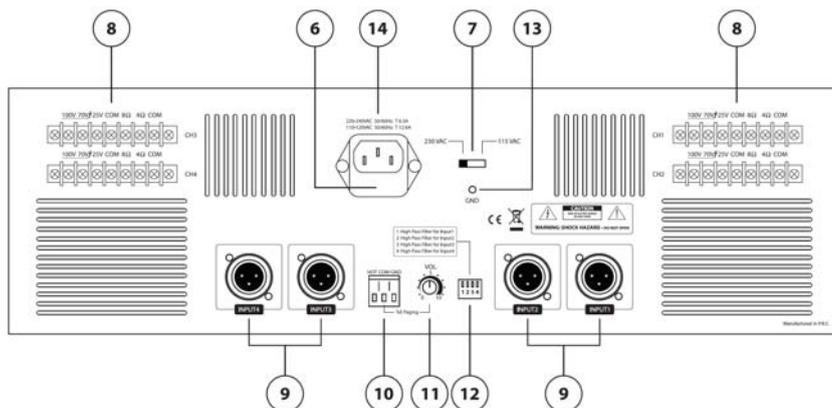

fig.2
To supply the unit, connect on position 14 **fig.2**, the cable contained in the package
Connect telephone output terminal to screw terminal TEL INPUT (fig.2 ref.10). Use the most suitable connection accordingly to the audio telephone signal characteristics. ( make reference to the telephone manual user).
In order to access to the speakers terminal screws i (fig.2 ref. 10) remove the protection cover :unscrew the fixing screws.
In order to have a constant impedance line ( $8/4\Omega$ ) connect the two terminals respectively to COM e  $8$  o  $4 \Omega$  (fig.2 ref. 8).
In order to have a line with a constant voltage (50 / 70 / 100 V) connect 2 terminals respectively to COM and to the tension indicated and of your choice (fig.2 ref. 10).